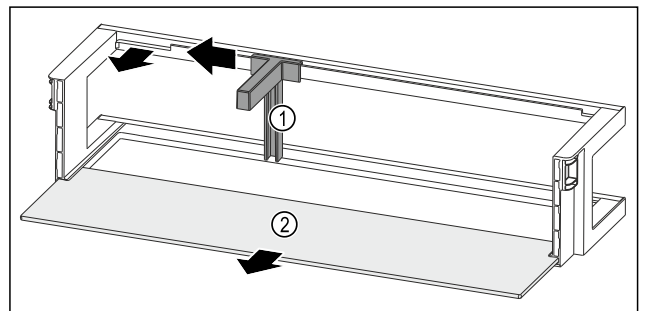

Fig. 147 Door rack with bottle holder and shelf
- ▶ Slide the bottle holder Fig. 147 (1) to the side as far as the recess.
- ▶ Remove the bottle holder Fig. 147 (1).
- ▶ Remove the shelf Fig. 147 (2).